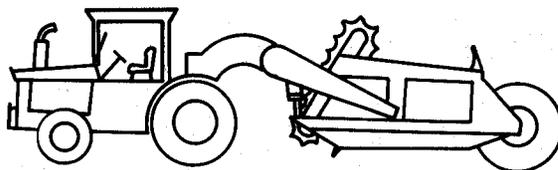

Figure 6 – Three axles
5.1.3.2 Three axles (figure 6)